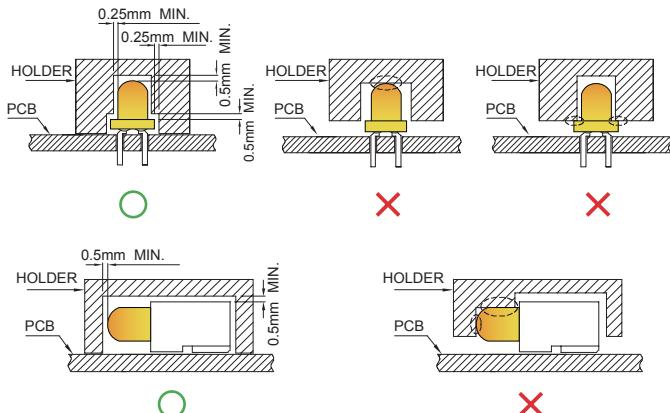

Fig. 7
4. During soldering, component covers and holders should leave clearance to avoid placing damaging stress on the LED during soldering. (Fig.7)